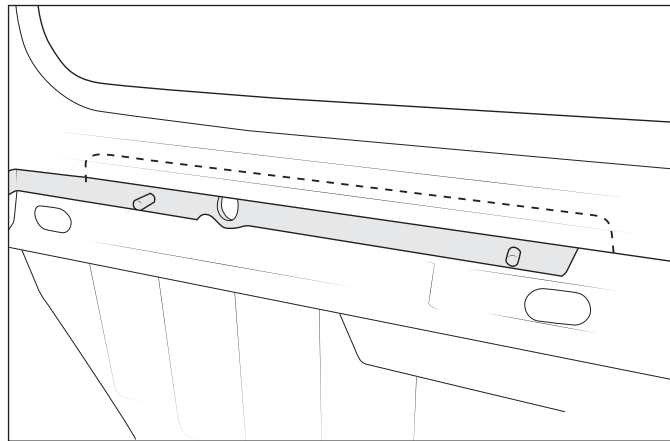

Figure 13
4. If the bed cap has a fiberglass flange on the bulkhead that reaches into the bed area it will need to be trimmed (fig. 13). Place the VTM's Bulkhead Bracket into position and mark where the fiberglass flange needs to be cut.